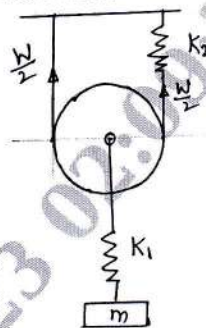

Fig.Q7(c)
- c. Determine the frequency of vibration of the system shown in Fig.Q7(c). Use the following data  $m = 10 \text{ kg}$ ,  $K_1 = 200 \text{ N/m}$ ,  $K_2 = 400 \text{ N/m}$ .